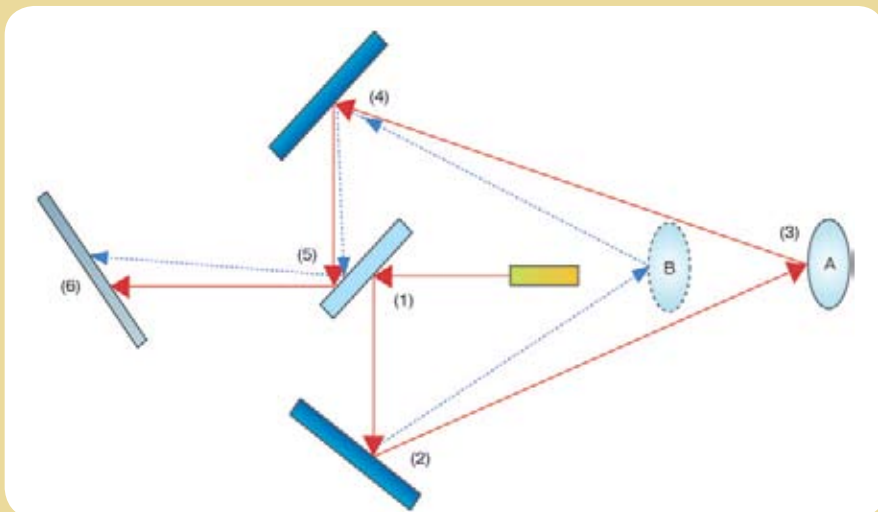

Figure 2
Figure 2 depicts an autosynchronous scanner using a triangulation principle to derive range information. An emitted laser beam reflects from the front surface of a double-sided mirror (1), bounces off a fixed mirror (2), reflects off the object (3), and is collected